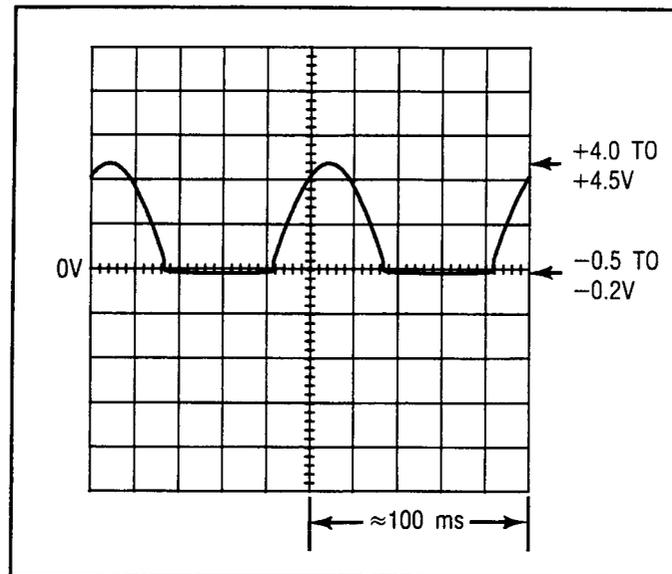

Figure 8B-34. Waveform at Pin 6 of U5, $\sqrt{2}$ Step 3
3. Connect the oscilloscope to pin 6 of U5. The waveform should be as shown in Figure 8B-34. (Note: Excessive input capacitance of the oscilloscope may cause oscillation. Use a divide-by-ten probe.)